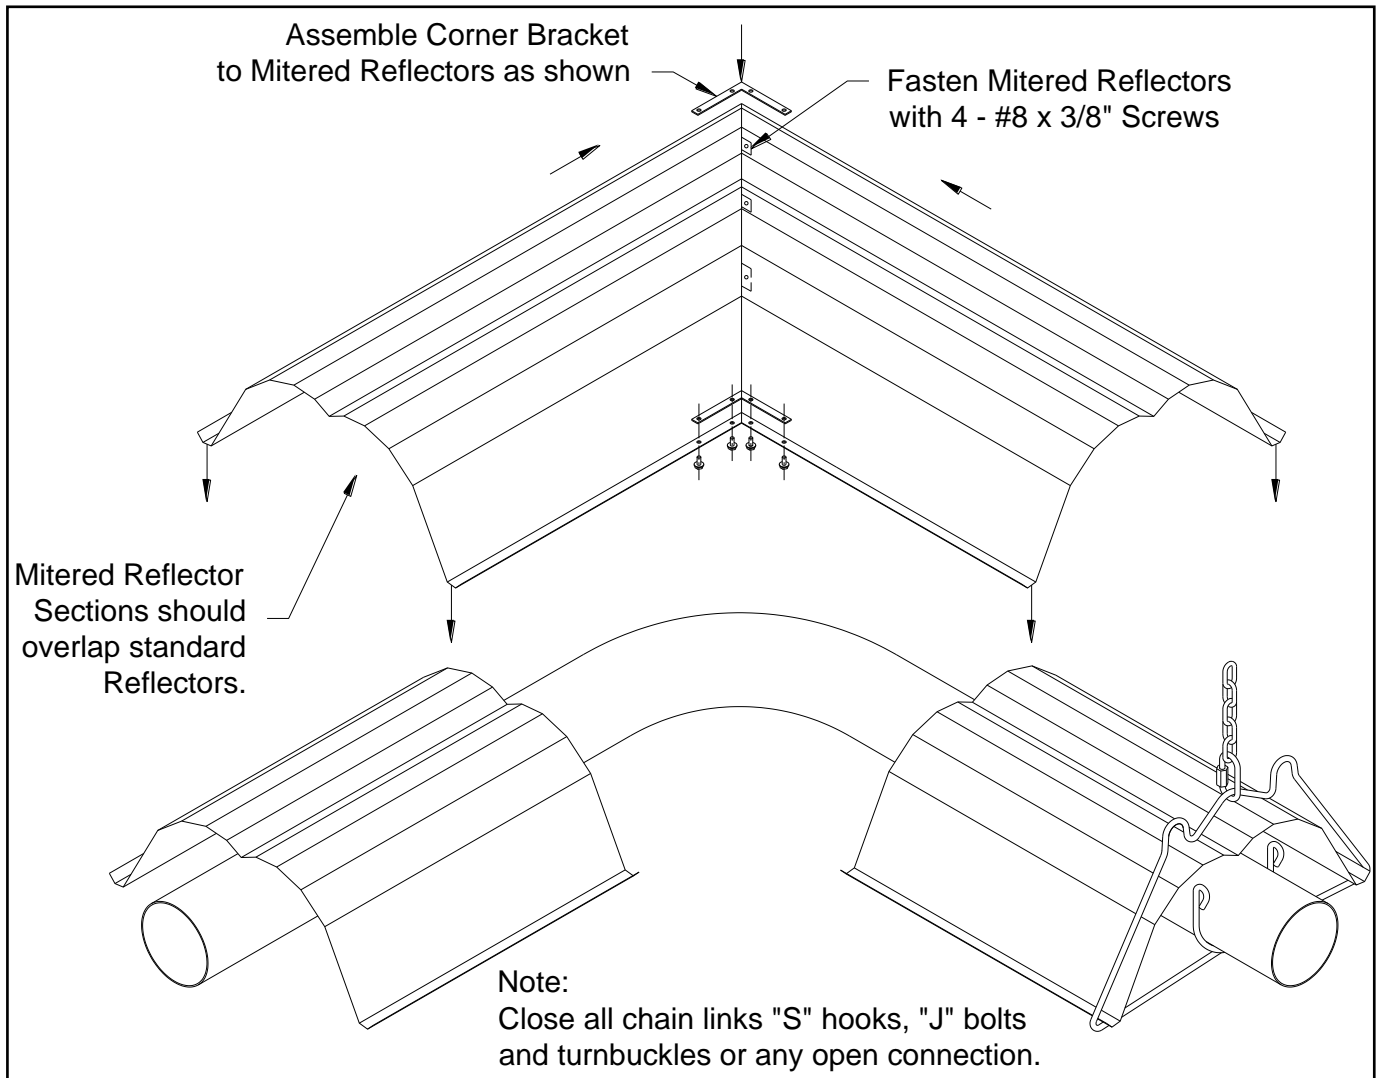

Figure 20: Mitered Reflector Installation
***Note:** Elbows or U-tubes are typically installed without reflectors. To reduce the above clearance to combustibles distance use miter reflectors (see Figure 20) and refer to Clearance to Combustibles information.*
- If used, install the Mitered Reflector as shown below (Figure 20).